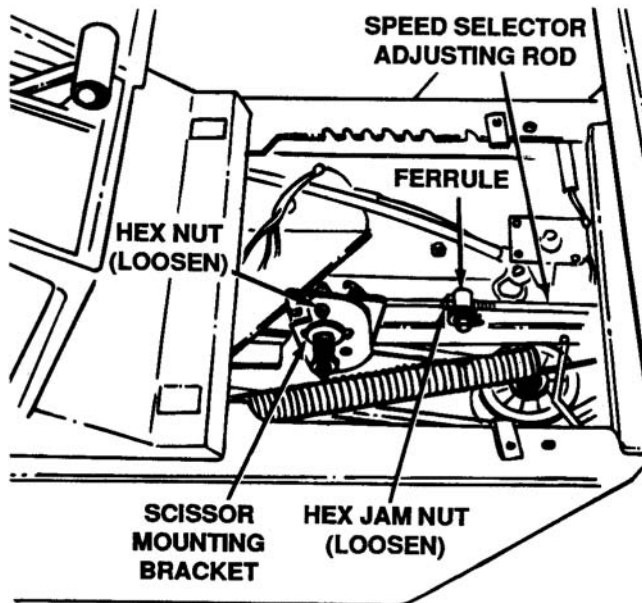

Figure 7-39. Loosening Nut on Adjusting Rod and Mounting Bracket
3. Loosen the hex jam nut on the speed selector adjusting rod. See Figure 7-39.
4. Loosen the hex nut on the scissor mounting bracket. See Figure 7-39.